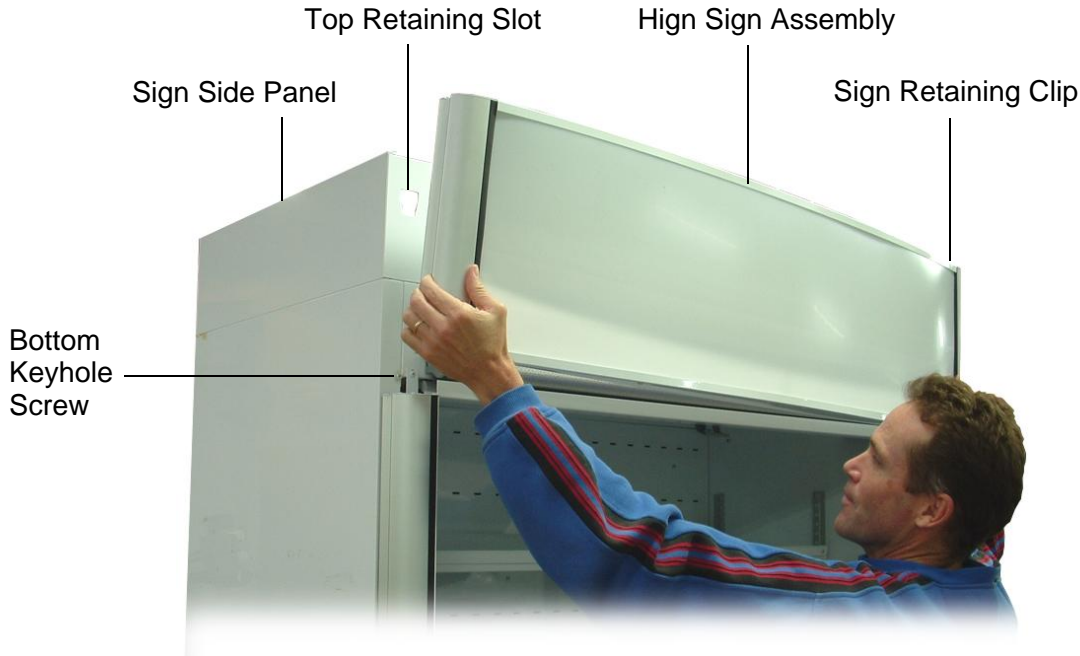

Figure 7: Attaching the High Sign Assembly
4. Attach the high sign assembly onto the cabinet by clipping the top of the sign into the retaining slots at the top of both side panels and then locating the bottom of the sign over both the bottom keyhole screws (see Figure 7 below).
3. Remove the sign assembly from the cabinet, by lifting the sign up to disengage from the top retaining slot and bottom keyhole screw on each side of the cabinet (see Figure 7 on page 13).
2. Remove the sign assembly from the cabinet, by lifting the sign up to disengage from the top retaining slot and bottom keyhole screw on each side of the cabinet (see Figure 7 on page 13).